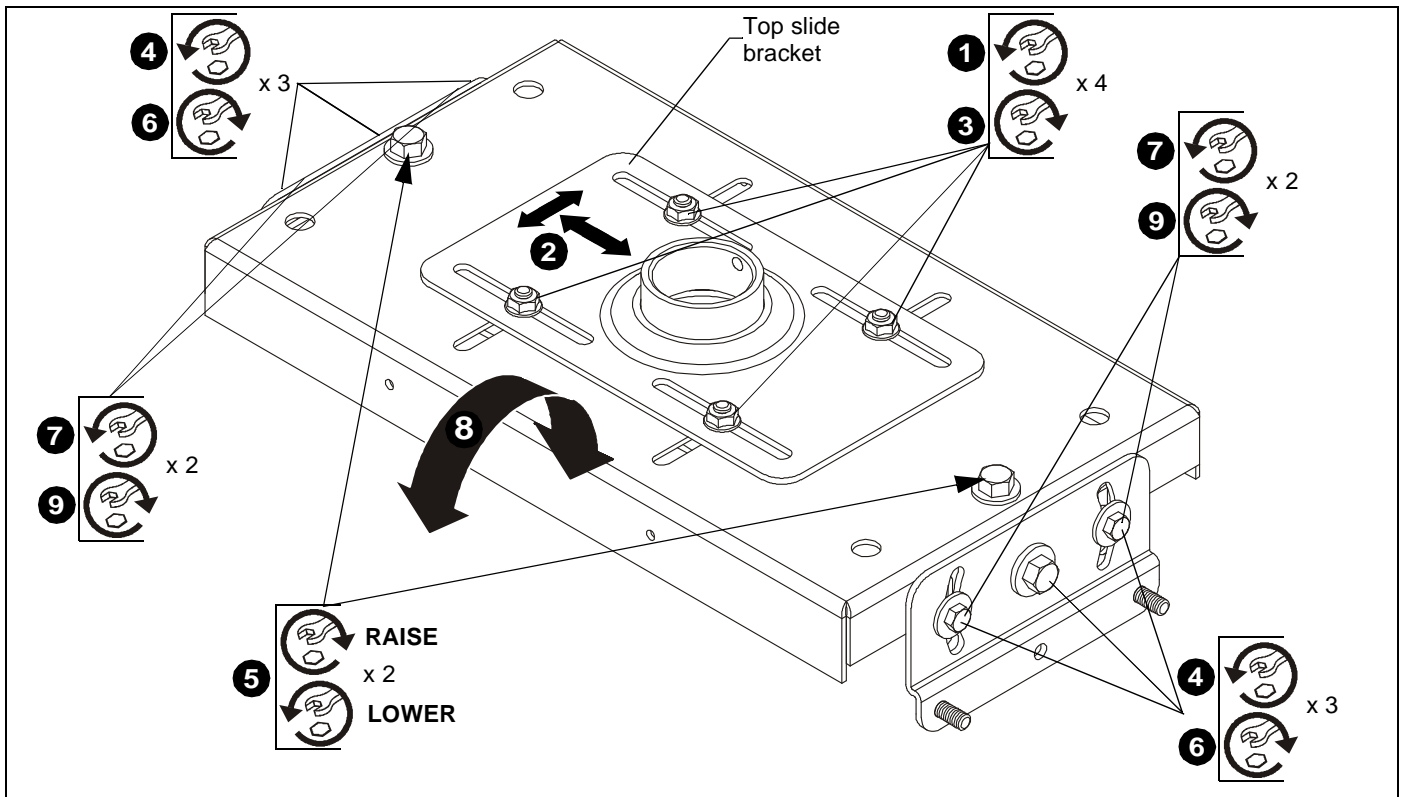

Figure 4
**Horizontal Adjustments** (See Figure 4)
**Roll (Horizontal Tilt)** (See Figure 4)
**Pitch (Vertical Elevation)** (See Figure 4)